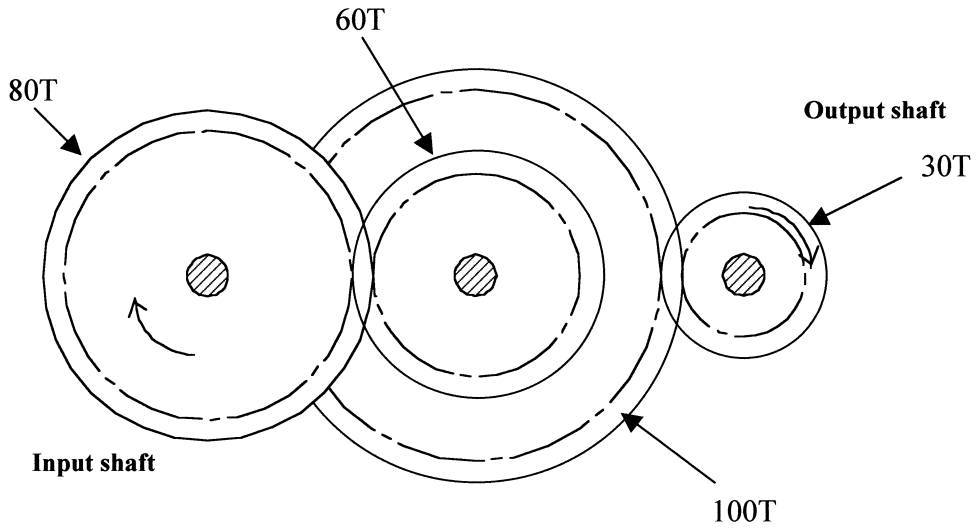

Figure 9
- (d) If the input shaft in the system in **Figure 9** is rotating at 200 rpm what speed will the output shaft be rotating at?